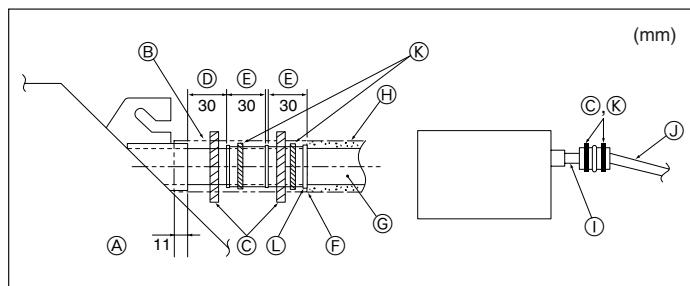

Fig. 3-5
- ⑮ Up to 500 mm
1. Connect the drain socket (supplied with the unit) to the drain port. (Fig. 3-5)